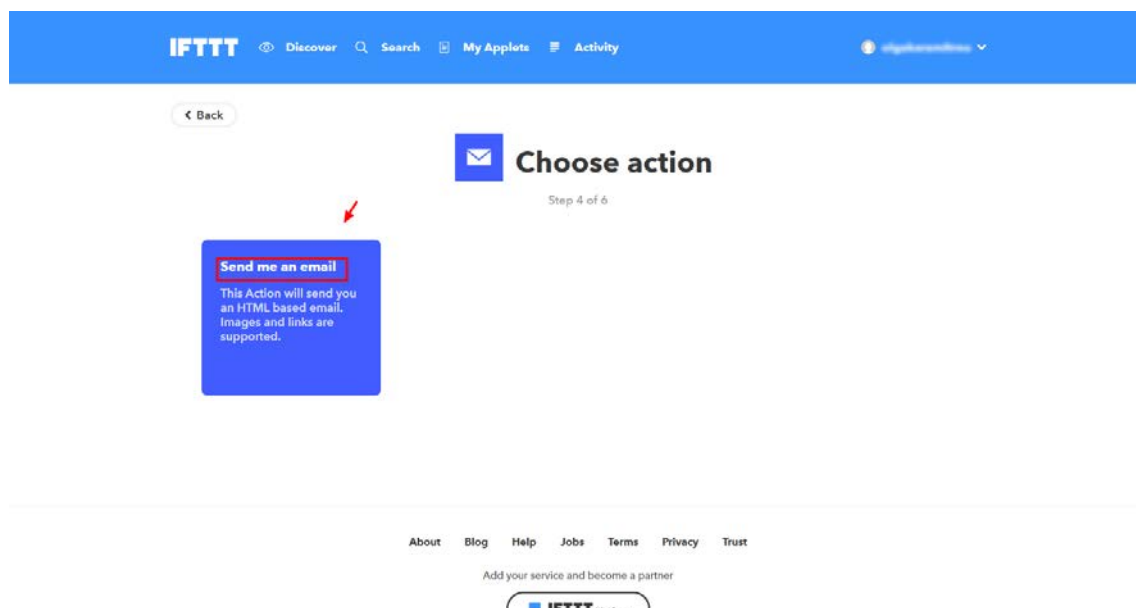

Figure 81: Make an IFTTT Applet, Step 4
- On the '**Choose Action**' screen, click on "**Send me an email**" action (Figure 81).